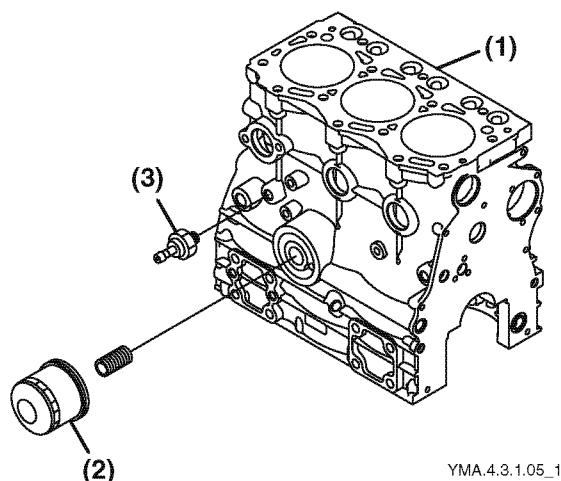

Figure 5-97
Install the oil filter (**Figure 5-97, (2)**) and oil pressure switch (**Figure 5-97, (3)**). see *Replacing the Engine Oil Filter Element* on page 4-11.